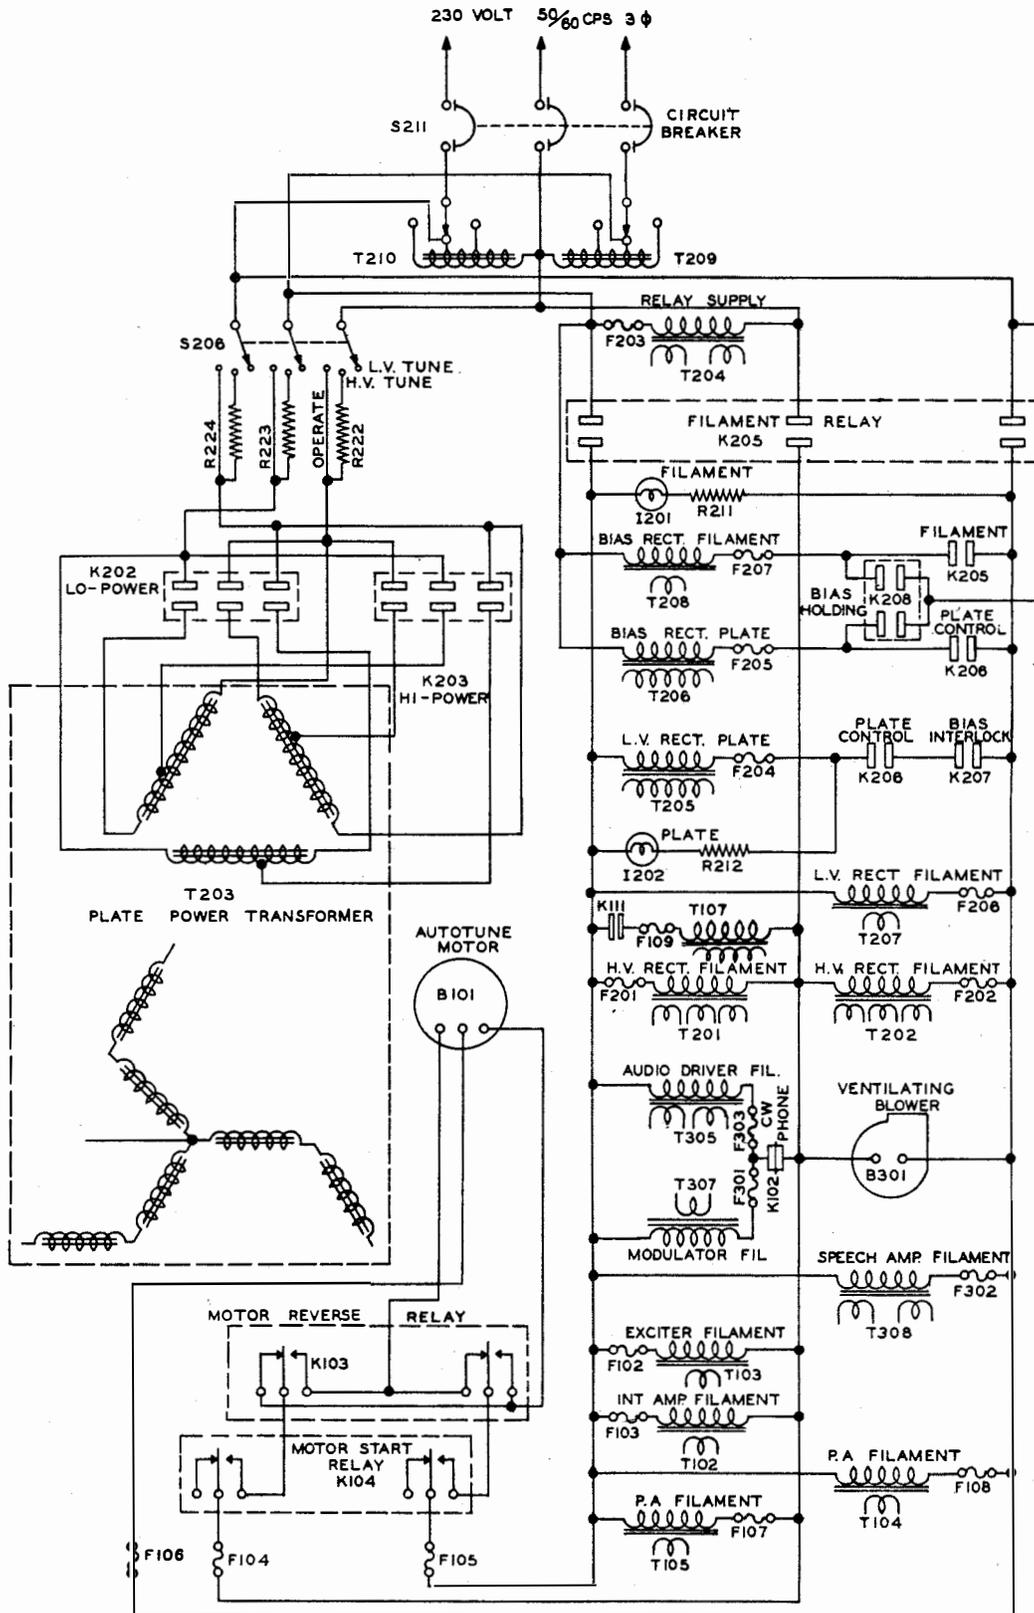

Fig. 3 A-C Primary Circuits (Dwg. No. 500 0738 00C)
2.3. A-C PRIMARY CIRCUITS. Refer to Fig. 3. The transmitter has been designed to operate from a 230 volt 50/60 cps 3 phase power source. A circuit breaker, S211, is connected in the primary power line to permit the complete disconnecting of the primary power from the transmitter circuit. Two auto-transformers, T209 and T210, are connected across the three phase line so that adjustments of voltage may be made to compensate for high or low power source voltage. The three phase power is applied to the auto-former from the transmitter except that which is applied to the relay rectifier supply.
intermediate voltage lead. Refer to Fig. 3.